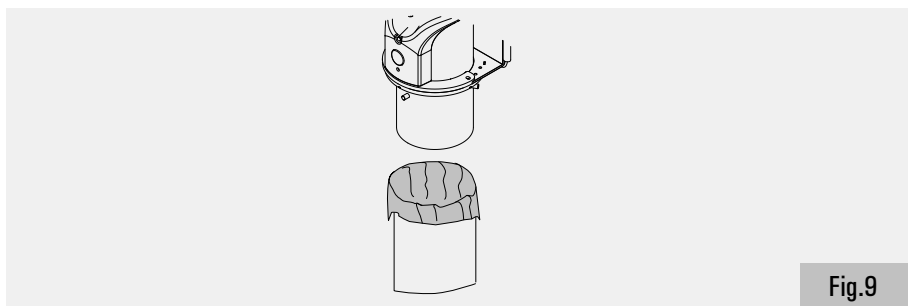

Fig.9
**Tip:** to minimize cleaning we suggest placing a plastic bag inside the waste ground coffee container by folding the bag edge over and outside the tube (see Fig. 9). Using this system, once the tube is filled, it will be possible to throw the waste directly into the wet waste